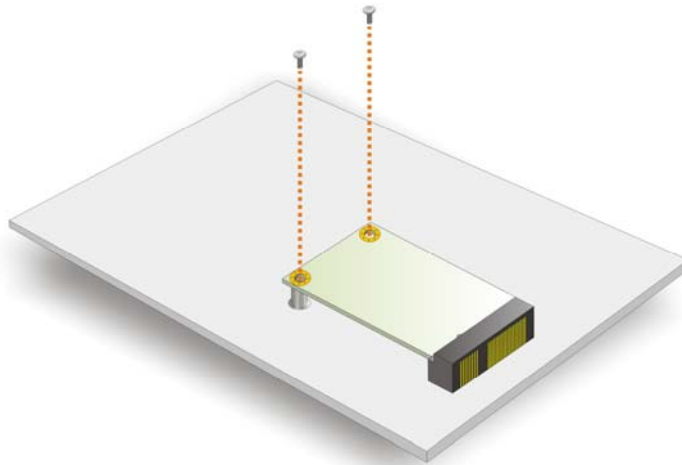

Figure 4-18: Secure the PCIe Mini Card
Step 4: **Secure the PCIe Mini card.** Secure the PCIe Mini card with the retention screws previously removed (Figure 4-18).